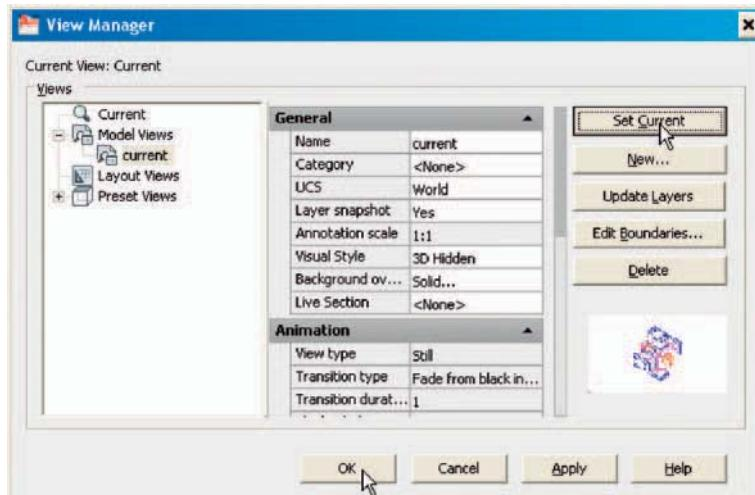

Fig. 15.23 The **View Manager** dialog reappears
- The **View Manager** dialog reappears. Click the **Set Current** button, followed by a click on the dialog's **OK** button (Fig. 15.23).